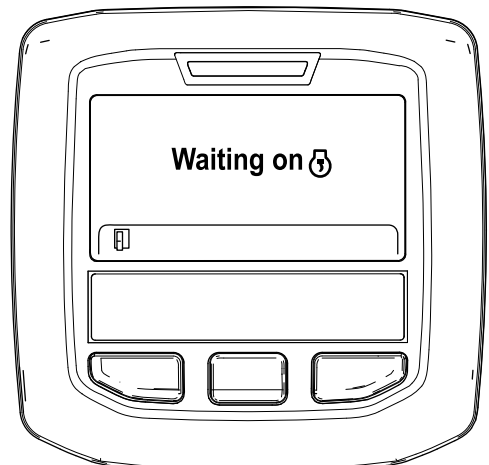

Figure 43
- B. The "Waiting on [engine icon]" message displays (Figure 43).